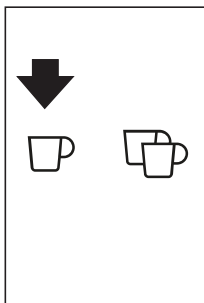

Fig. 19
- You can make just one coffee at a time by pressing the icon  (B10) (Fig. 19).